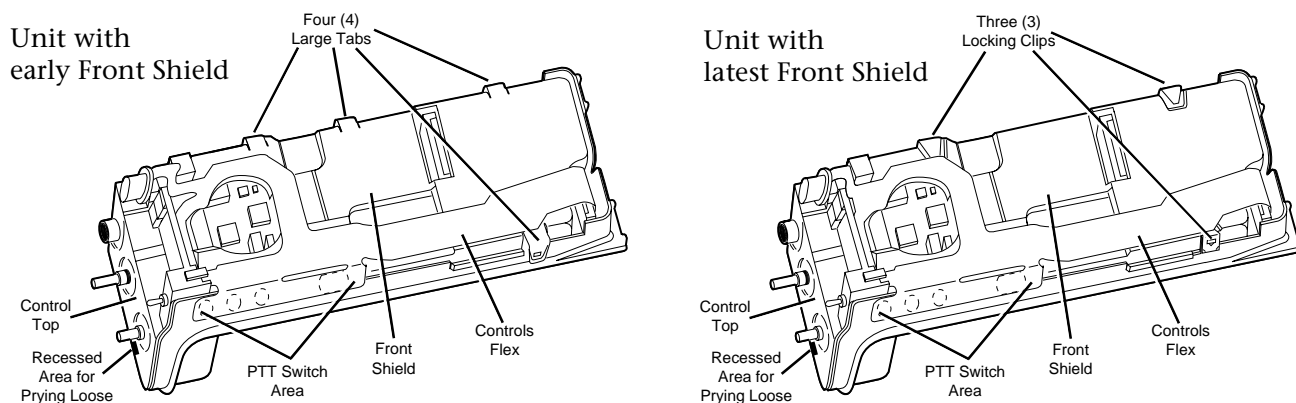

Figure 8 Separating Control Top From the Chassis
9. As a unit, separate the control top, the front shield, and the controls flex from the chassis and circuit boards (see Figure 8).